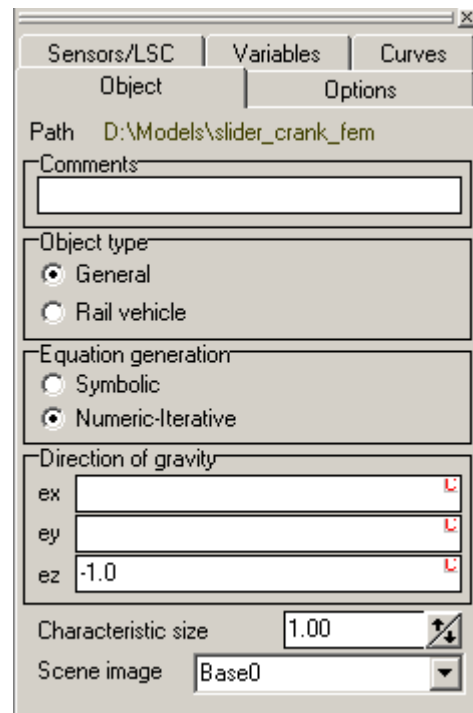

Figure 2.16
4. Select **Object** item in the tree of elements and set **Scene image** to **Base0**, see Fig. 2.16.